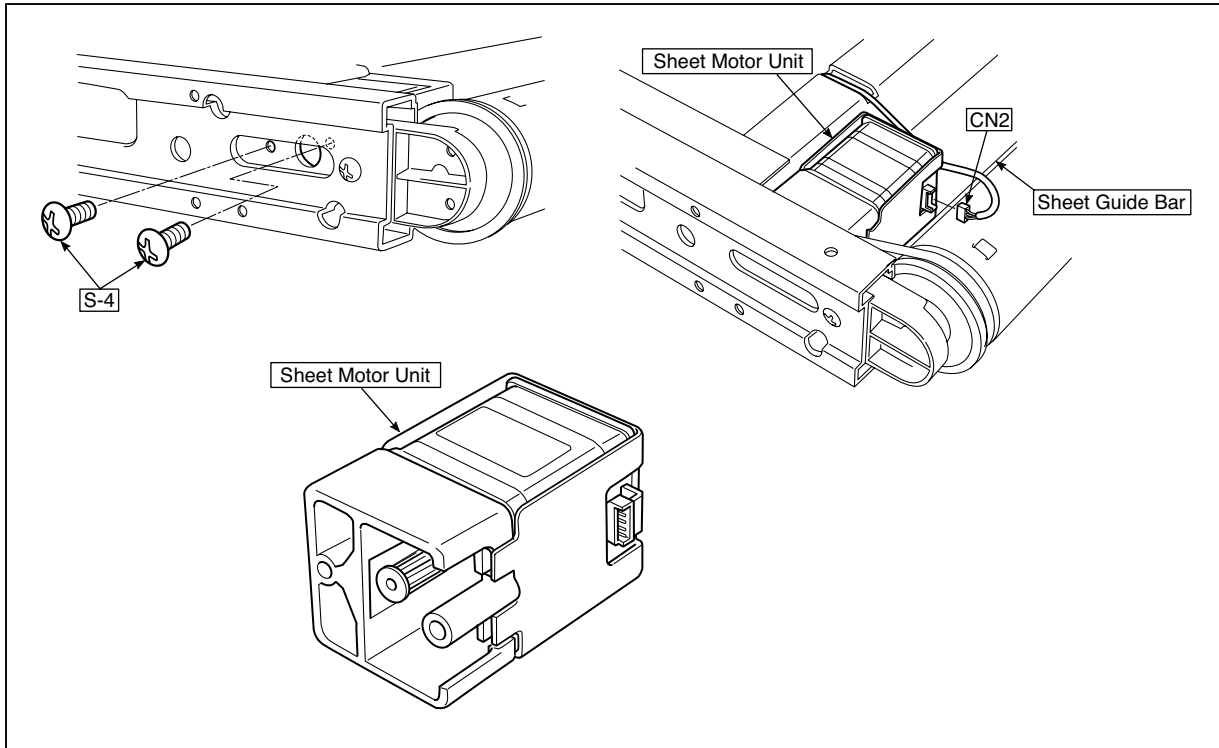

Fig.27
12) Replace the Sheet Motor Unit. (See Fig. 27)
1. Remove the "S-4" screws shown in the figure 27.